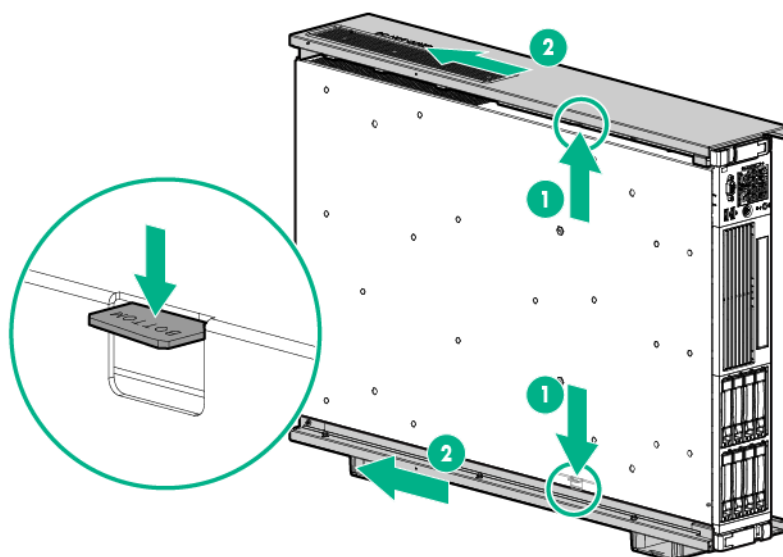

Figure 37: Removing the pedestal top piece
- b. Press the lock release tab on the pedestal top piece away from the chassis to unlock the pedestal top piece from the server. See **Figure 37: Removing the pedestal top piece** on page 132 for the pedestal top and bottom piece lock release locations.